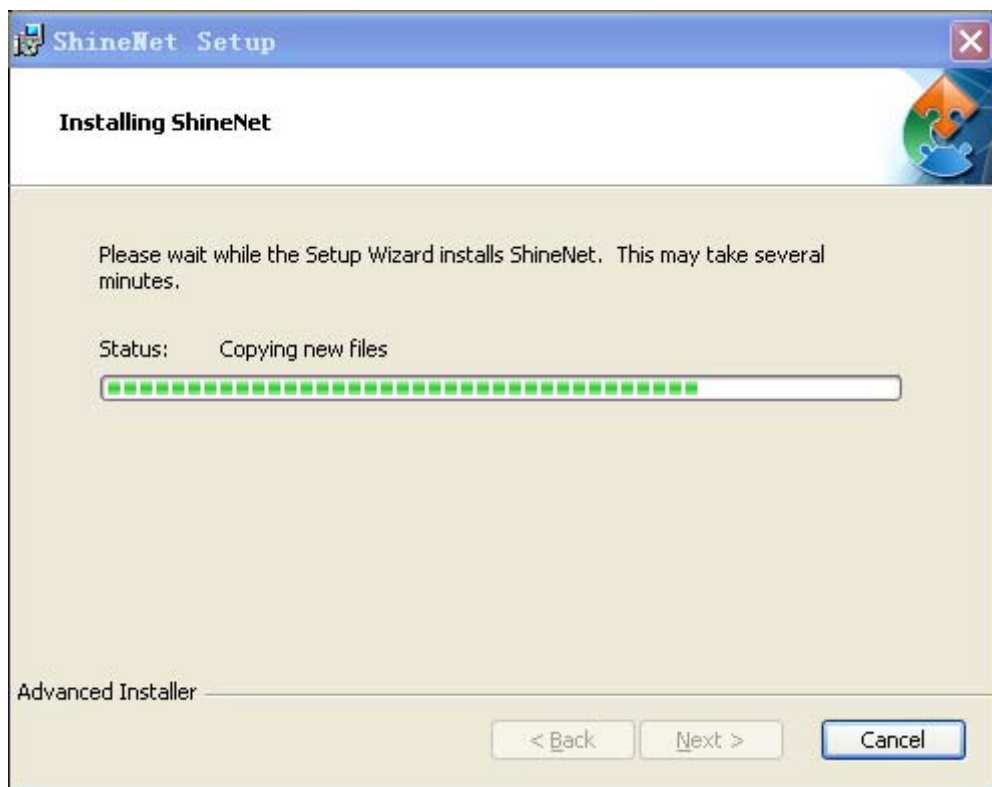

Figure 3-2-4
5. Click install, then shown as following figure 3-2-4.